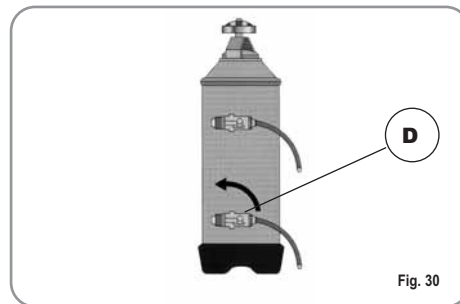

Fig. 30
- 3) Reposition lever D towards the left (Fig. 30).